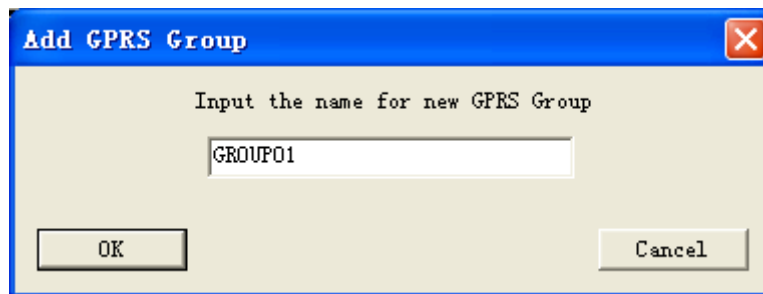

Fig2.65
2. Set the GPRS Group. Click  button, it will display a dialog box to set the GPRS Group as fig2.65. In dialog box input the name for GPRS Group, then click ‘OK’ button to confirm. Then the group’s name will be displayed in “Available GPRS Group” window.